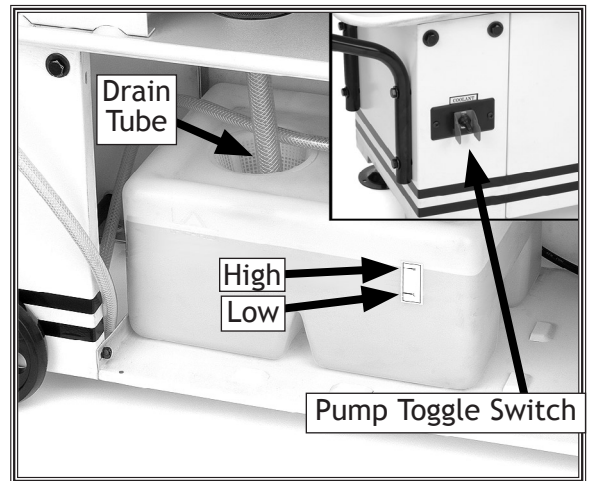

Figure 16. Correctly filled tank ready to be pumped.
3. Make sure the drain tube points toward the reservoir intake screen, and that all tube connections are tight and will not leak (see **Figure 16**).
4. Make sure the waterproof rubber switch boot is installed on the pump ON/OFF toggle switch (**Figure 16**), and that the toggle switch is in the down position.
**NOTICE:** NEVER operate the pump with the reservoir below the low mark (**Figure 16**), or the pump can be destroyed!